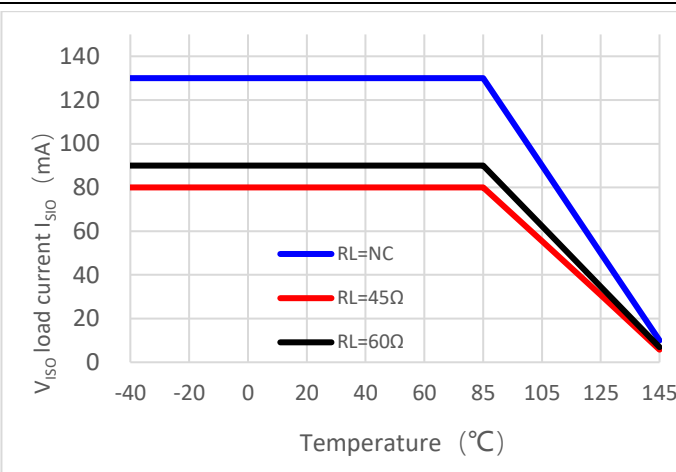

Figure 7-12.
- The available output current from  $V_{ISO}$  will be reduced when  $T_A > 85^\circ C$ , see Figure 7-12.the maximum output current of  $V_{ISO}$  vs. temperature.
The integrated DC-DC converter provides up to 650mW of isolated power with +5V fixed output voltage configuration. The maximum output current from VISO is shown as Table 9-3. Note that the IISO value in Table 9-3 is the maximum output current at +25°C. With the increase of temperature, especially when the temperature exceeds +85°C, the maximum load current will be decreased, see Figure 7-12. Maximum output current from VISO at different temperature and bus load.